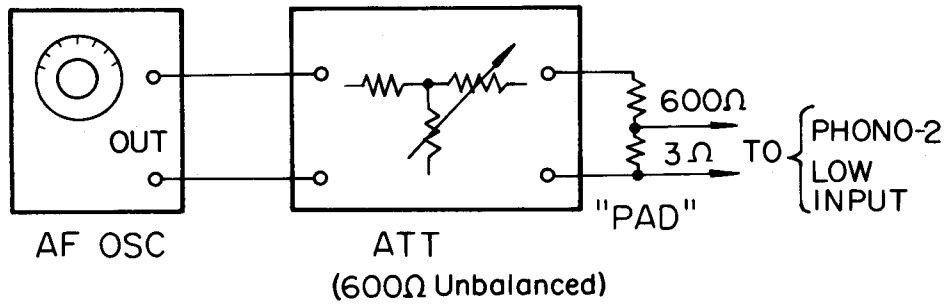

Fig. 3-1. PHONO-2 (LOW) Sensitivity Measurement Test Set-up
- a. When measuring the sensitivity of the PHONO-2 LOW input, insert a pad with a loss of 43 dB between the attenuator and input terminal. See Fig. 3-1.
(8) PHONO-2 Input (LOW)
- Step 3: Adjust the attenuator to obtain a 1 volt reading on the VTVM. The input sensitivity is the attenuator reading plus the pad loss. See Fig. 3-1.
(9) TAPE HEAD Input
(10) MIC Input